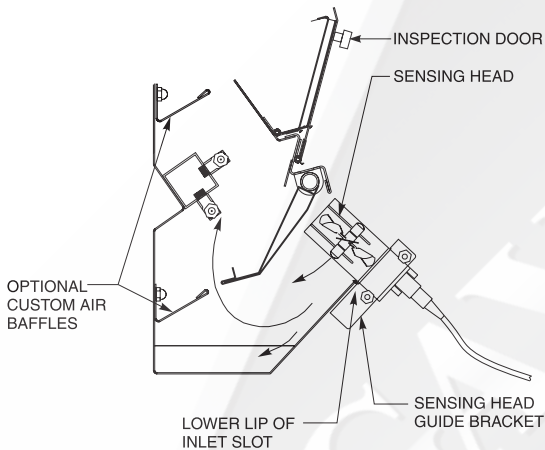

FIG. 12B
1. It is first necessary to determine if the ventilator includes Custom Air baffles as shown in fig. 12B. If shop drawings are available, and if equipped, the custom baffles and their location will be noted on the front elevation. If not available, to determine if Custom Air baffles are provided, open the inspection door and look for the top custom air baffle, as shown in Fig. 12B.
Important Note: If the ventilator includes custom air baffles as illustrated in Fig. 12B, always take separate readings on the section of the ventilator that includes custom air from the section that does not have the baffles. Non custom air and custom air readings must be recorded separately. Do not average them together.